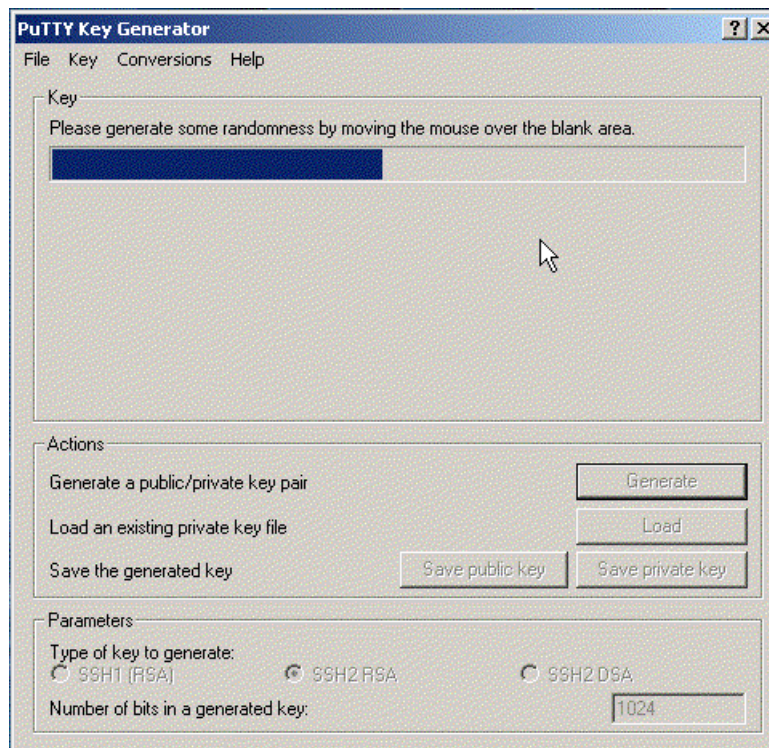

Figure 4-2 PuTTY random key generation
3. The message in the Key section of the window changes. Figure 4-2 shows this message.